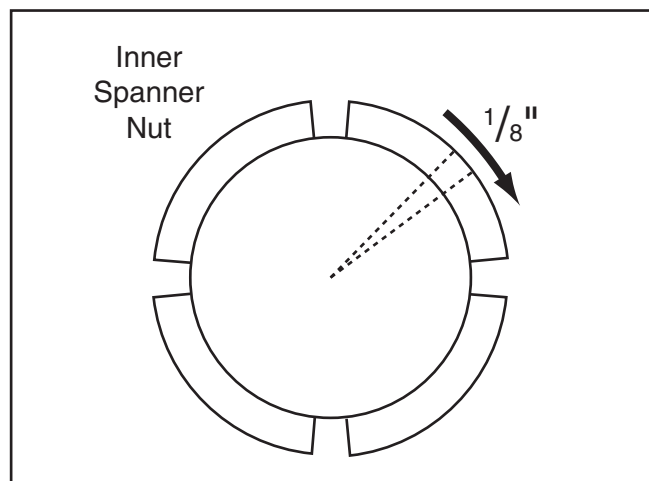

Figure 94. Turning inner spanner nut $\frac{1}{8}$ " clockwise.
10. When you are confident that you have adjusted the inner spanner nut until zero spindle end-play and preload exist, tighten the inner spanner nut an additional $\frac{1}{8}$ " of a turn clockwise to introduce the correct amount of spindle bearing preload (see **Figure 94**).